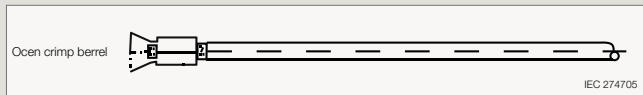

Fig. 2 - Wire crimped onto PIN
1. A metallic contact known as a PIN (fig. 4) made of tinned copper and formed using a moulding technique. It has two wings necessary to anchor it to the electric wire. This is done by crimping or mechanically, using matrix **IS3153-IS3154** in the relevant pliers **UMCT3149**, which, by bending the wings on the metallic core of the photovoltaic wire (fig. 2, 3), ensures correct and safe anchoring in accordance with **CEI EN 60352-2**. Perfect insulation of the metallic contact can be further guaranteed by placing **IS51400** and **IS52400** caps